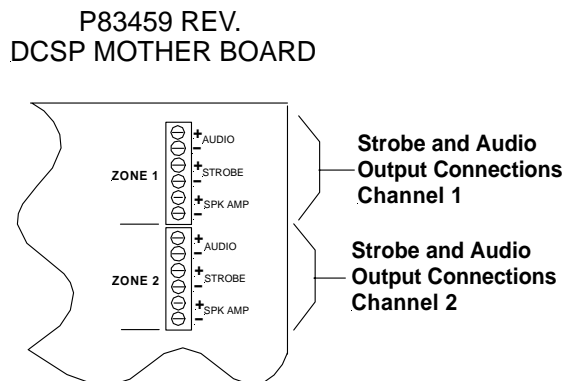

Figure 3-2
8. Connect supplied 10K Ohm, ¼ Watt test resistors to Strobe and Audio NAC Circuit output connections on Mother Board. (If SALL-15S amplifier module is being used, connect a 10K Ohm ¼ Watt resistor to the "SPK AMP" terminals also. See Figure 3-2 for location.
14. Connect all Strobe and Speaker NAC Circuits to the proper connections on the **SAFEPATH**[®] Mother Board. See Figure 3-2 on Page 3-3.